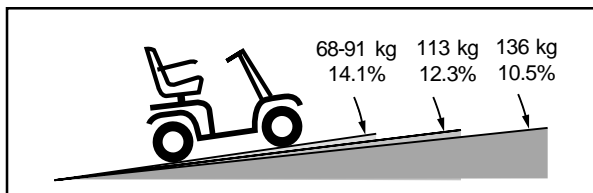

Figure 1. 3-wheel Maximum Recommended Incline Angles
**WARNING! Even though your scooter is capable of climbing slopes greater than those illustrated in figures 1, 1A, and 1B do not, under any circumstances, exceed the incline guidelines or any other specifications presented in this manual. Doing so could cause instability in your scooter, resulting in personal injury and/or damage to your scooter.**
Handicap public access ramps are not subject to government regulation in all countries, and therefore do not necessarily share the same standard percent of slope. Other inclines may be natural or, if man-made, not designed specifically for scooters. Figures 1, 1A, and 1B illustrate your scooter's stability and its ability to climb grades under various weight loads and under controlled testing conditions.